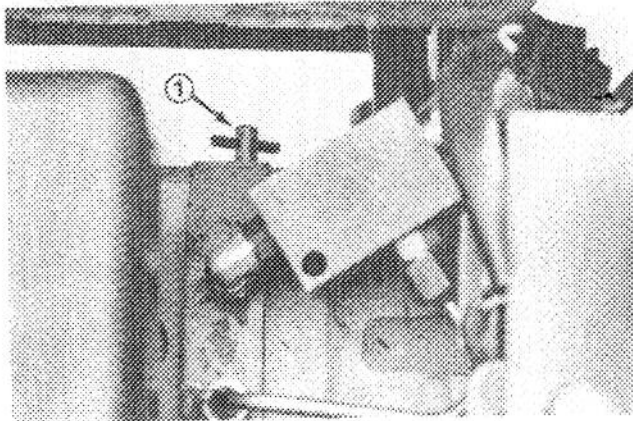

Figure 16
1. Reach in and rotate by-pass valve on transmission (Fig. 16) counterclockwise 1/2 to 1 turn. Opening the valve opens an internal passage in the pump, thereby bypassing transmission oil. Because fluid is by-passed, the machine can be pushed without damaging the transmission.